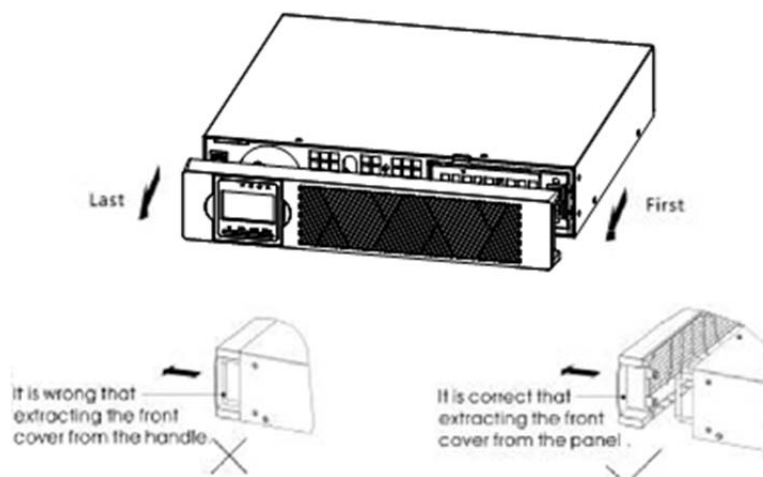

Figure8 Removing the EBP Front Cover
(1) To install the optional EBP(s) for a UPS
- a) Remove the front cover of each EBP and UPS (see Figure 8).